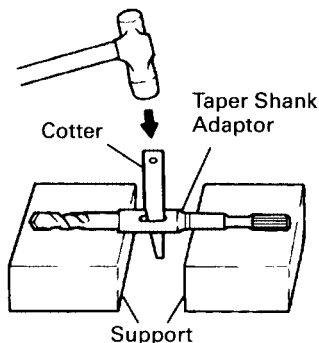

Fig. 11
- (1) Install drill bit with taper shank in the taper shank adaptor.
- (2) Turn the power on and drill a base hole.
- (3) After cleaning out dust with a syringe, attach the plug to the anchor tip and drive in the anchor with a manual hammer.
- (4) To remove the drill bit with taper shank, insert a cotter into the slot of the taper shank adaptor, place supports under the rotary hammer and tap the cotter with a manual hammer. (Fig. 11)